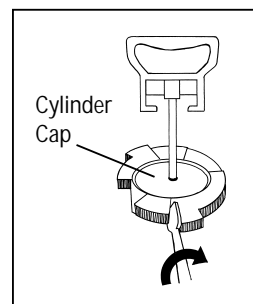

Figure 1
2. Lift handle up. Insert small screwdriver into one of the visible slots at the side of the cylinder cap (see figure 1), turn the cap around clockwise. Lift the cap off of the cylinder and remove the shaft assembly.